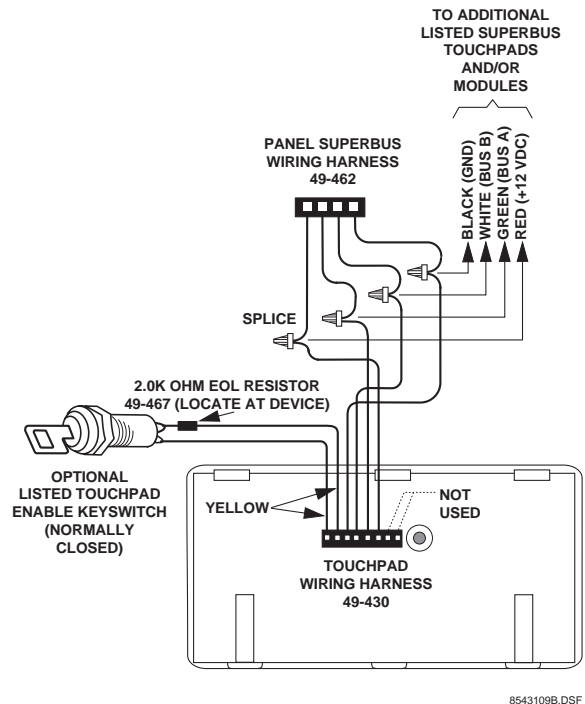

Figure 3. Wiring the Touchpad to Advent Panel
4. Splice the touchpad wiring to the panel SuperBus wiring harness as shown in Figure 3. Wire multiple touchpads in parallel.